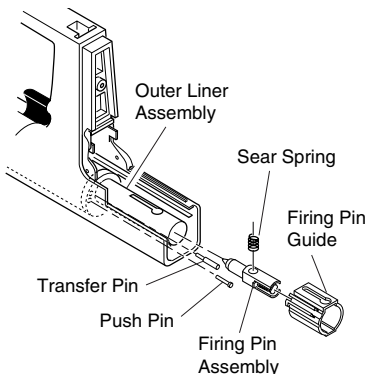

Figure 9 - Removing Firing Pin Guide, Firing Pin Assembly, Sear Spring, Transfer Pin, and Push Pin
3. Slide firing pin guide off of the outer liner assembly (see Figure 9). Pull the firing pin assembly with sear spring out of the outer liner assembly. Remove sear spring from firing pin assembly (see Figure 9).
4. Remove transfer pin and push pin from outer liner assembly (see Figure 9).